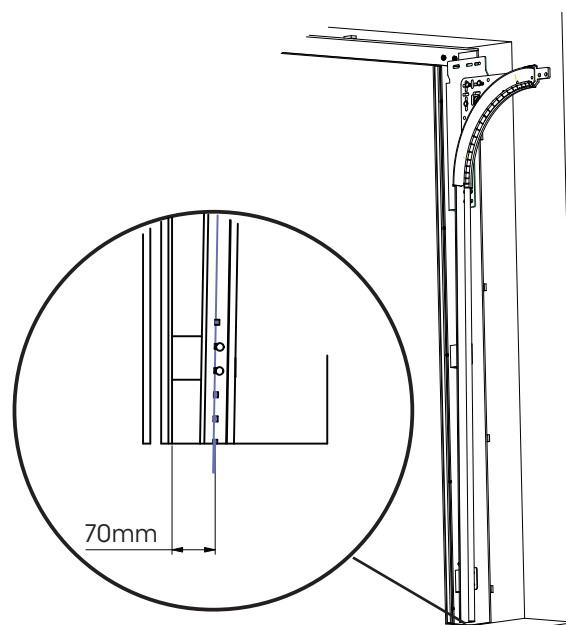

Fig: 3.1.1
- Ensure to set the bottom adjustable jamb bracket to 70mm from the back of the frame to the centre of the bolt, Fig 3.1.1. Set the vertical track flag bracket (F) connection to 95mm for a 4 panel door.
- Once satisfied temporarily fix in position with at least three (3) fixings to the top bracket and one to each of the lower track brackets. These will hold the tracks in position and allow for minor adjustments.